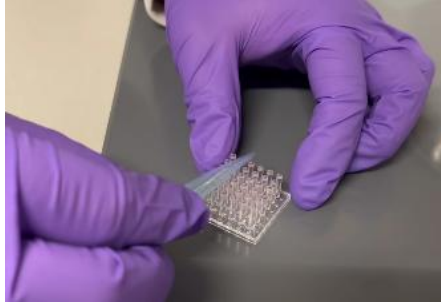

Figure 5. Scraping excess cell-Matrigel-alginate mixture off the pillars using the 1 mL pipette tip.
17. After loading the cell-Matrigel-alginate mixture on all pillars, scrape excess the cell-Matrigel-alginate mixture off the pillars by sliding the 1 mL pipette tip in a horizontal position on all pillars (**Fig. 5**).